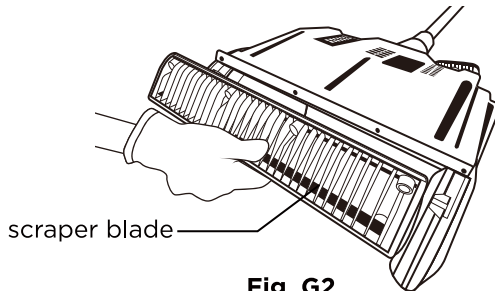

Fig. G2
2. Remove the old scraper blade. (See Fig. G2)